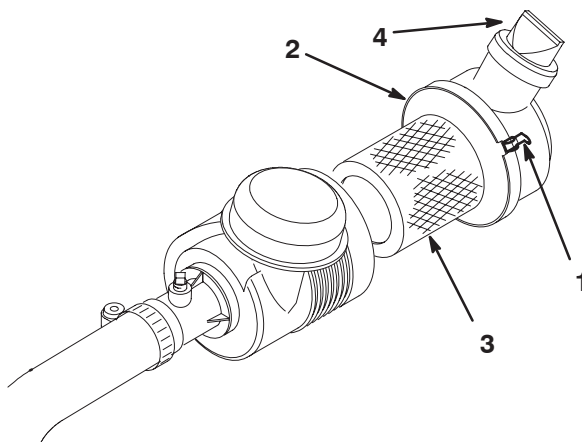

Figure 45
1. Release the latches securing the air cleaner cover to the air cleaner body (Fig. 45).
6. Reinstall the cover and secure the latches (Fig. 45).